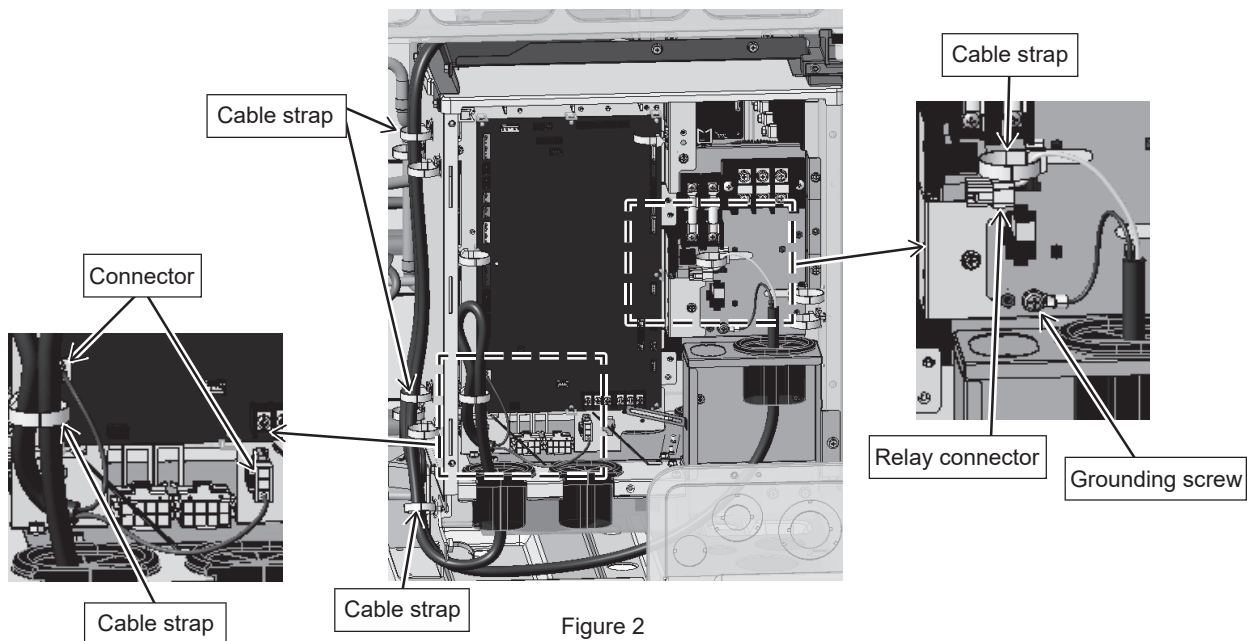

Figure 2
- (3) Unstrap the cable straps holding the transformer box wiring, and disconnect the wiring connectors and the grounding wire. (5 cable straps, 3 connectors, and 1 grounding screw as shown in Fig. 2.)